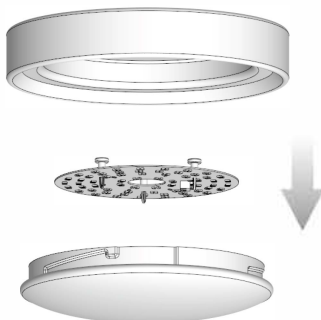

Fig. 1.2
1.3 Turn the lampshade counterclockwise to disassemble it. Then, detach the LED light kit from the light kit pan directly, as it is held in place by magnets as shown in Fig. 1.2.